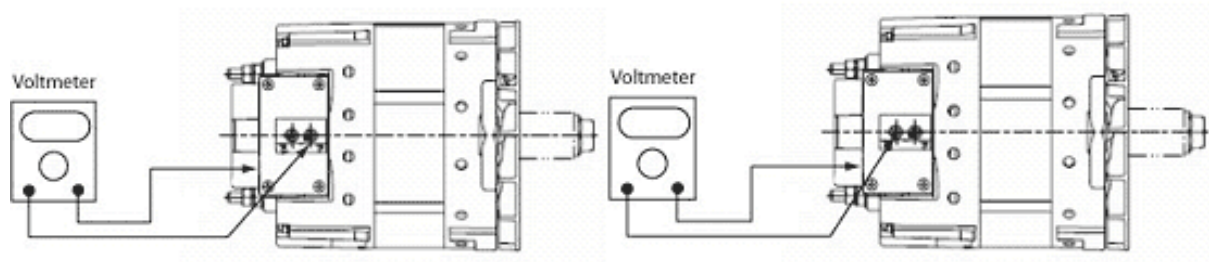

Figure 1
A. Check field voltage by turning the ignition switch to the run mode - do not start the engine. Measure the voltage at each of the alternator F+ and F- terminals (see Figure 1). Voltage will be from .5V to 1.5V. If the voltage is not present then faulty wiring or the inverter is the problem. If voltage is present on one of the alternator's F terminals and not present on the other, then the alternator's field is open and the alternator is defective. See Figure 1 to properly test voltage at the alternator's field terminals.